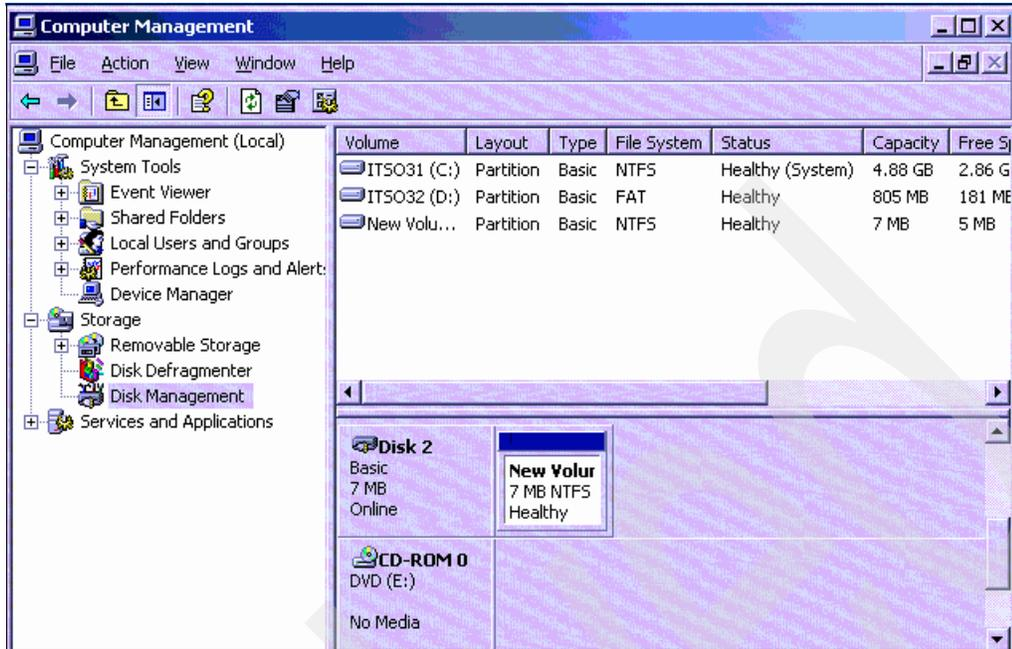

Figure 4-79 Verifying status of the new disk
- xii. Verify the status of disk (Figure 4-79 on page 106).